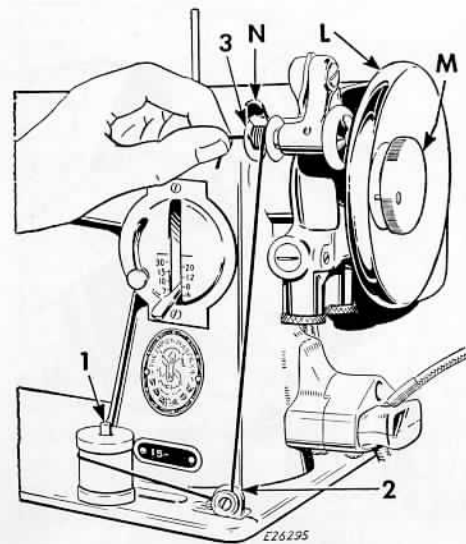

Fig. 11. Winding the Bobbin
See Fig. 11
2. Lock bobbin in place by pressing bobbin winder down until latch N, Fig. 11 engages.
If pressure of bobbin winder pulley against hub of hand wheel is insufficient for winding the bobbin, press down bobbin winder until latch N, Figs. 11 and 12 drops and holds it in position.
If thread does not wind evenly on bobbin, loosen screw which holds tension bracket **2**, **Fig. 11** in position. Move bracket to the left if bobbin winds high on right; move bracket to the right if bobbin winds high on left. When bracket is properly centered, thread will wind evenly across bobbin.